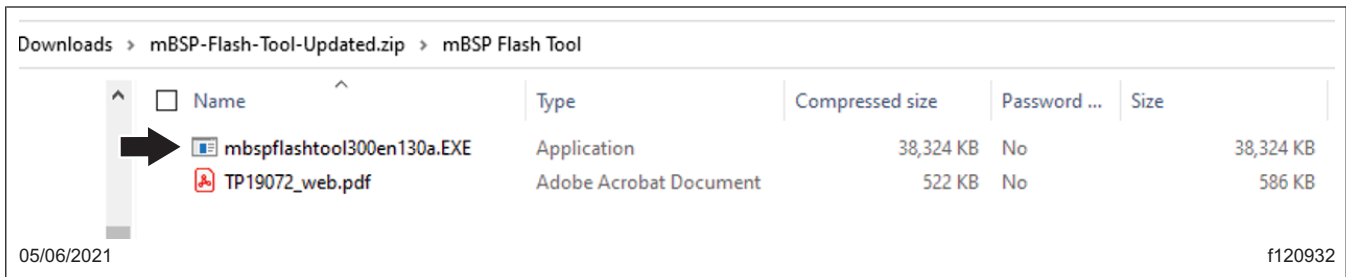
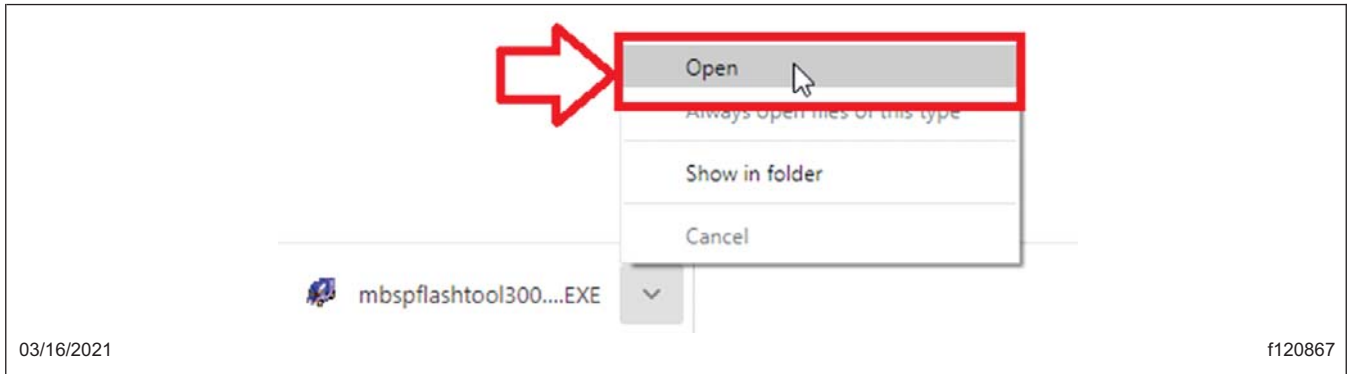

Fig. 6, "mbspflashtool300en130a.EXE" File in "mBSP Flash Tool" Folder
Fig. 7, Opening the mBSP Executable File
7.1 In the extracted folder "mBSP Flash Tool", double-click on the "mbspflashtool300en130a.EXE" file. See Fig. 6 and Fig. 7.